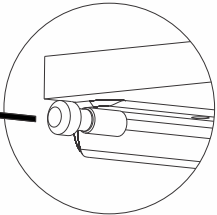

Fig. 2a
4. It can be folded & kept while not in use, Pull the knob to fold the bracket as shown in Fig 2a.